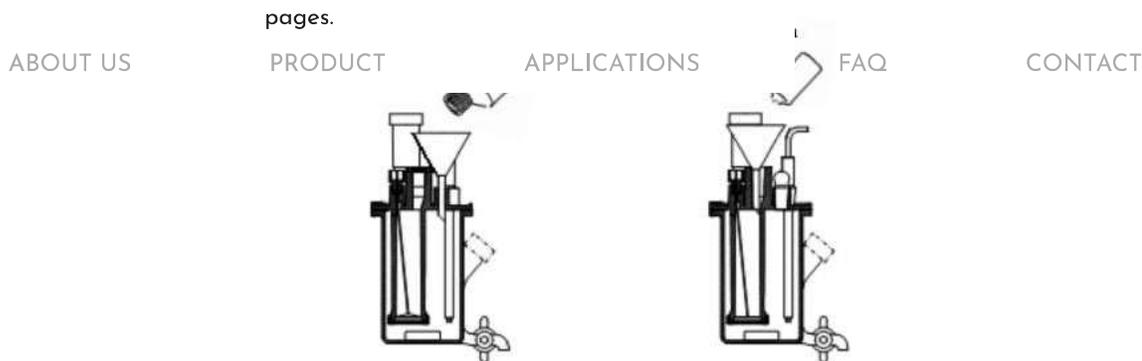
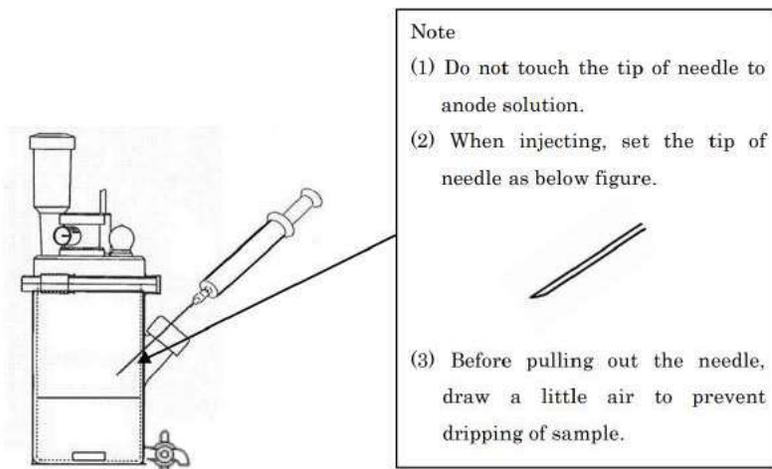

Fig.3.1. Preparation of the reagents. (Standard Cell)
Fig.3.2. Injection of sample.
- (1) Fill 100 mL of anode solution and one ampoule of cathode solution into the electrolytic cell as shown in Fig.3.1. When fritless cell is used, cathode solution is not necessary.
- (2) Start blanking to attain stable background.
- (3) Wash the syringe with sample.
- (4) Draw the sample into syringe and then weigh the syringe.
- (5) Inject sample from rubber septum of electrolytic cell as shown in Fig.3.2.
- (6) Start titration. Measurement parameter is shown in Table 4.1.